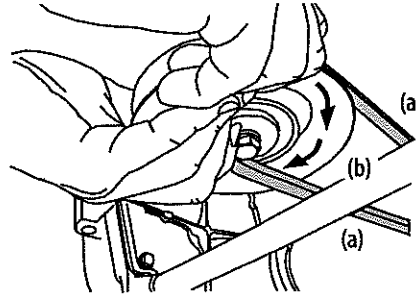

Figure 41
- d. While still holding the PTO belt (a) downward, continue turning the PTO pulley (b) until the PTO belt (a) is rolled off the PTO pulley (b). See Figure 41.
- Pull the right side of the PTO belt rearward and place the narrow V-side of the PTO belt into the PTO pulley. See Figure 41.
- While holding the PTO belt and PTO pulley together, rotate the PTO pulley to the left (See Figure 41). Continue holding and rotating the PTO pulley and PTO belt until the PTO belt is fully rolled into the PTO pulley.